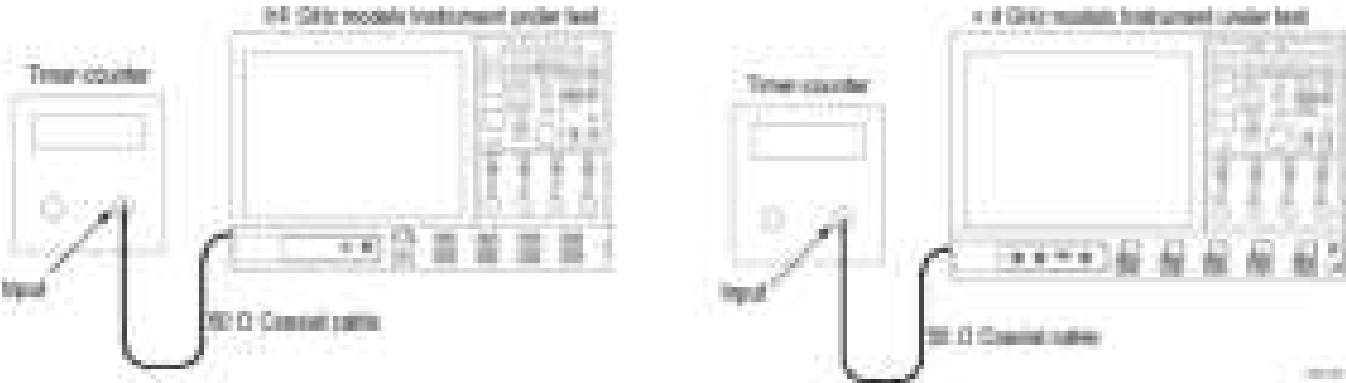

Figure 26: Timebase and delay time initial test hookup
- a. *Hook up the test-signal source:* Connect the input of the timer-counter to **AUX Out** (<4 GHz models) or reference output ( $\geq$ 4 GHz models). (See Figure 26: Timebase and delay time initial test hookup on page 242.)